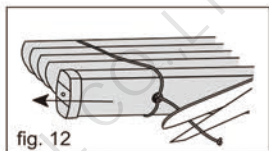

fig. 12
4. Cut lift cord 2cm above cap and remove. Pull the lift cord from these slats to allow them to slide out of the ladder rung. See fig. 12.